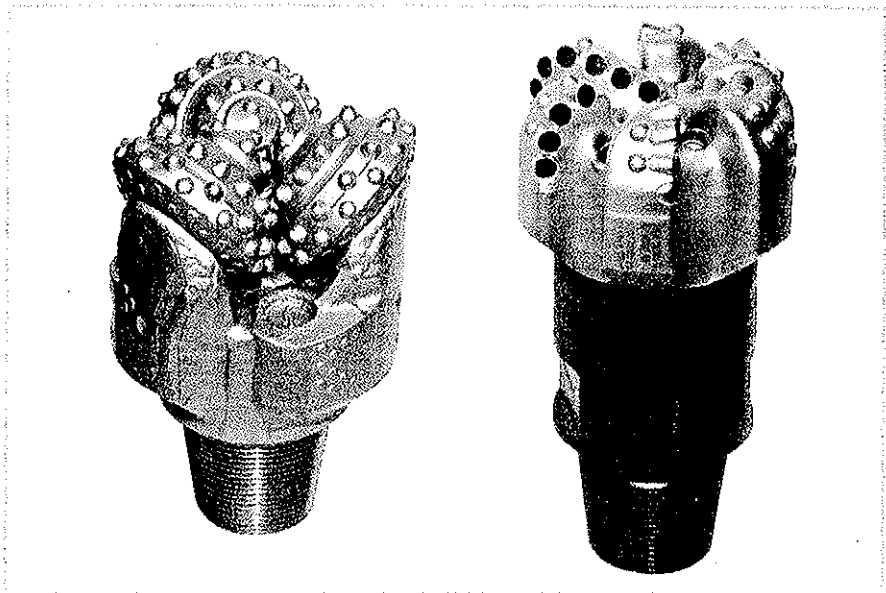

Fig. 5-11. Tricone and PDC bits. Tricone bits roll across the rock pulverizing it while PDC bits have a gouging action.
*Tricone* bits and *polycrystalline diamond compact* (PDC) bits are the work horses of the industry (fig. 5-11). Tricone bits have three metal cones studded with various very resistant materials placed at the bottom